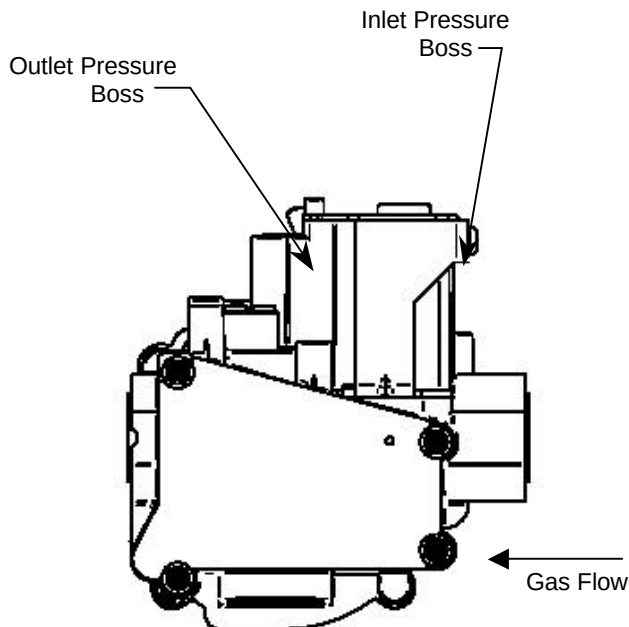

Figure 1
2. Using a 3/32 inch hex wrench, loosen outlet pressure tap screw (located in outlet pressure boss, see fig. 1) one turn (screw need not be removed).
3. Attach a 5/16 inch hose and manometer to the outlet pressure boss of the valve (see fig. 1). Hose should overlap boss 3/8 inch.